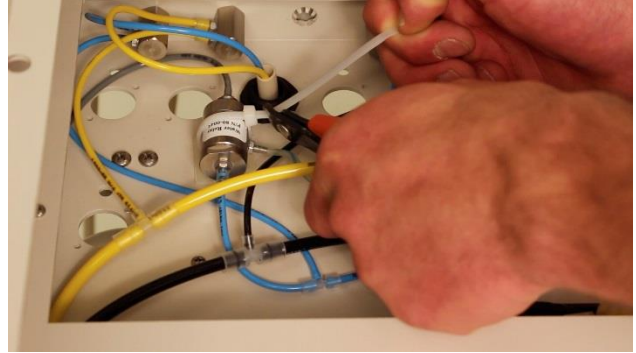

Fig. 6
7. Use provided zip tie to hold relay in place cut off excess tie. (Fig. 6)